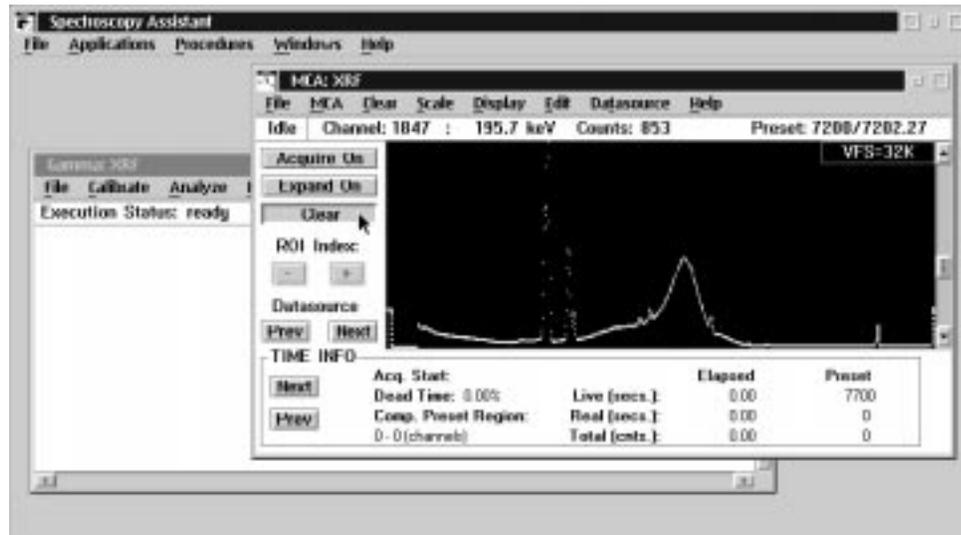

Figure 5. Window showing the open “XRF” detector and selection of the “Clear” button to clear the spectrum.
9. When the “XRF” detector file opens in “MCA View Control,” the existing spectrum will be displayed. This spectrum may or may not have data present. Using the “Scale” menu in “MCA View Control,” select “Auto.” This ensures that any spectrum data will become visible. In either case, select “Clear” in “MCA View Control” as shown in Figure 5 to clear the data in preparation for energy calibration.